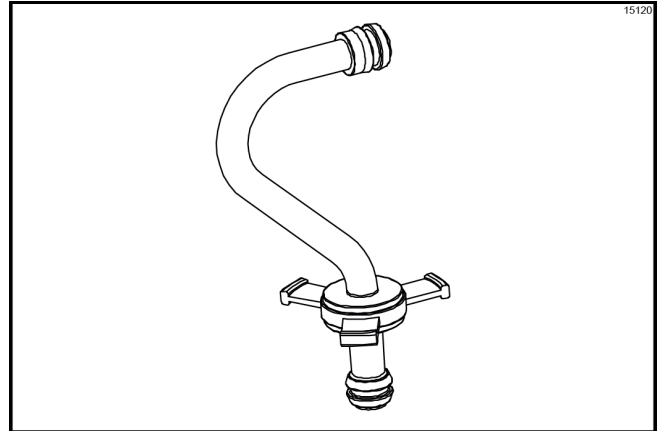

Figure-152
10. Assemble the feed tube assembly. Slide the check ring into the groove of the feed tube. (See Figure-152.)